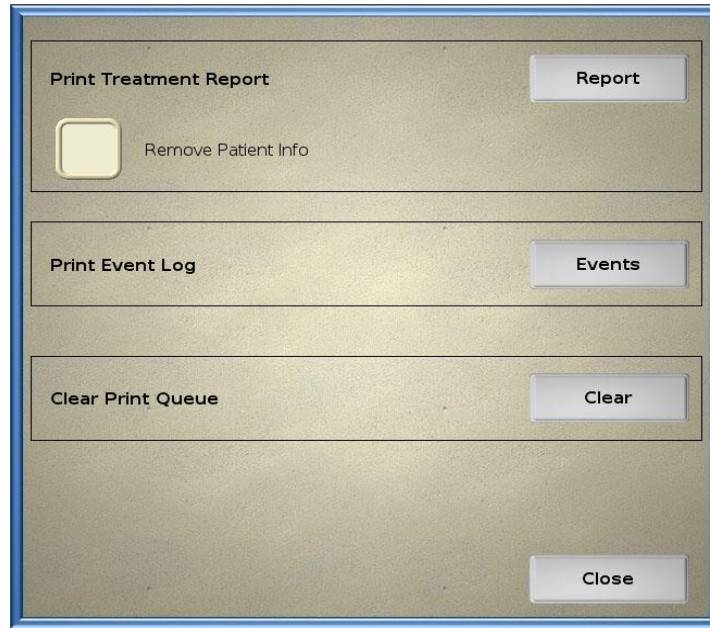

Figure 3-32. Print window
- Press the **Print** button, located in the upper right corner of the Urologix - BPH Treatment screen. Then, select one of the following print options: Print Treatment Report, Print Event Log, and Clear Print Queue (Figure 3-32). Or, press the **Close** button to return to the Urologix - BPH Treatment screen.